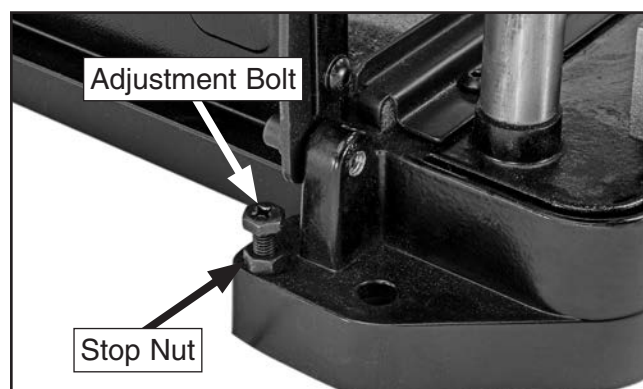

Figure 20. Location of components for adjusting table.
2. Loosen stop nut and adjustment bolt underneath each extension wing (see **Figure 20**).